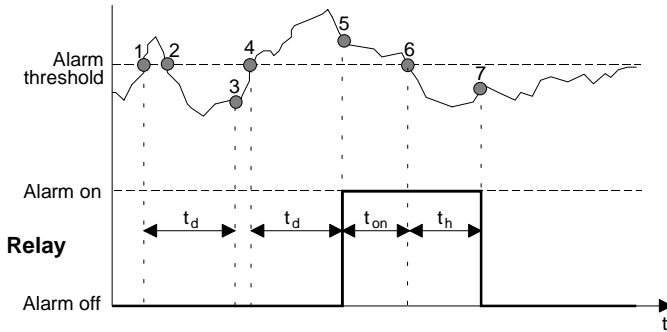

Figure 2: Switching behavior of the relay
Figure 2 shows the switching behavior of the built-in relay. At point ① the adjusted threshold was exceeded. Now the delay time t_d starts. It can be adjusted at the front panel between 0 and 20 s. Since the